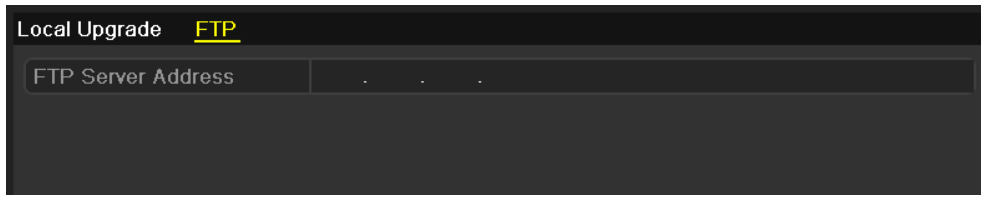

Figure 16-8 FTP Upgrade Interface
Step 2 Click the **FTP** tab to enter the local upgrade interface, as shown in Figure 16-8.